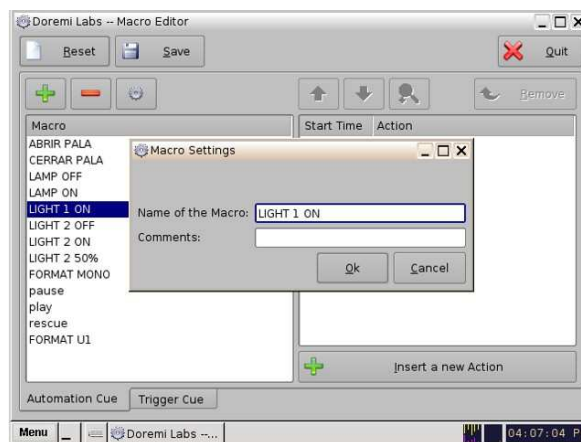

Figure 8.3.2A
1. Create a new “Macro” using the “+” button and name it, like in the **figure 8.3.2A**.